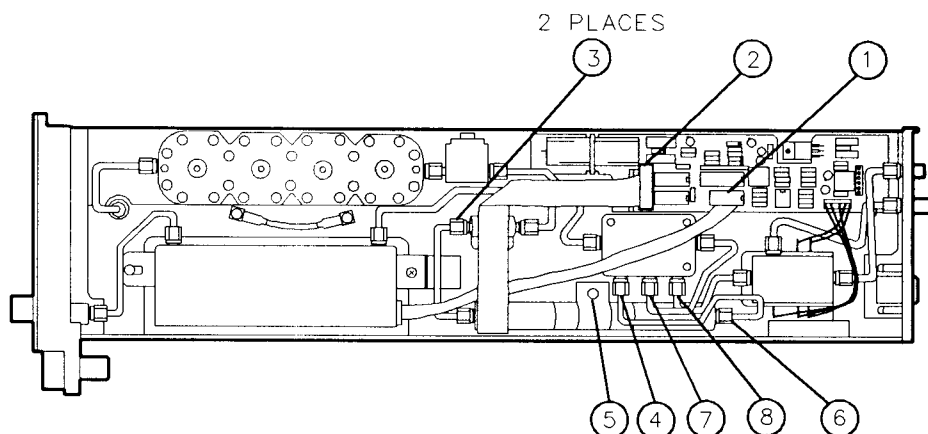

Figure 6-14. A15 2.9 GHz Low Pass Filter Replacement
3. Disconnect the A8W1 cable assembly (not shown) from J1 of the A1 Miscellaneous Bias board **(1)**. See Figure 6-14.